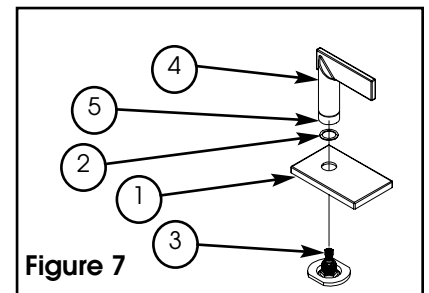

Figure 7
- Place base PLATE (1) and then WASHER (2) over cartridge STEM (3). Secure handle (4) into place by first engaging the STEM (3) and then threading handle BASE (5) onto cartridge. Any adjustments for rotational alignment must be made to the valve body, not to the cartridge. See Figure 7. Cartridge Bonnet factory torque is 14-16 ft-lbs.